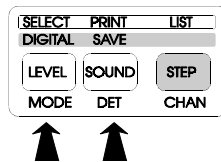

Figure 31.- Print mode selection.
- 4.- Select the *print mode*. To do this push the **[7] LEVEL (SELECT)** and **[8] SOUND (PRINT)** keys together as shown in figure 31. The upper row of the display (SELECT, PRINT and LIST) refers to the available operations in this mode.